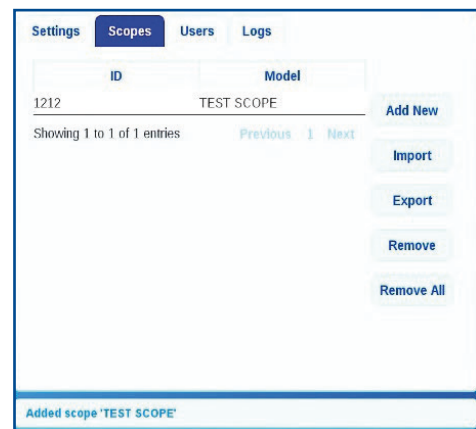

Fig. 49
4. Enter the scope model under “Model” by using the keypad on the screen and then press Enter or scan the barcode or RFID chip (Fig. 49).